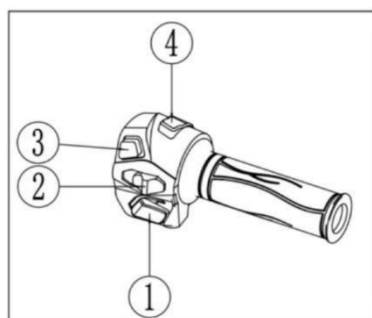

Figure 9 Right Combination Switch
4.5. Right combination switch (Figure 9)